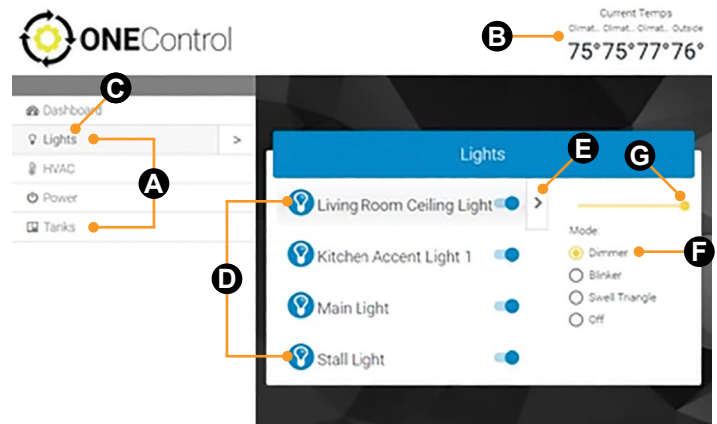

Fig.74
B. In the example shown in figure 74, the Living Room Ceiling Light is selected (Fig.74E). Within its properties listed is its capability to be dimmed (Fig.74F). The light's dimming feature is controlled through the slider control (Fig.74G).